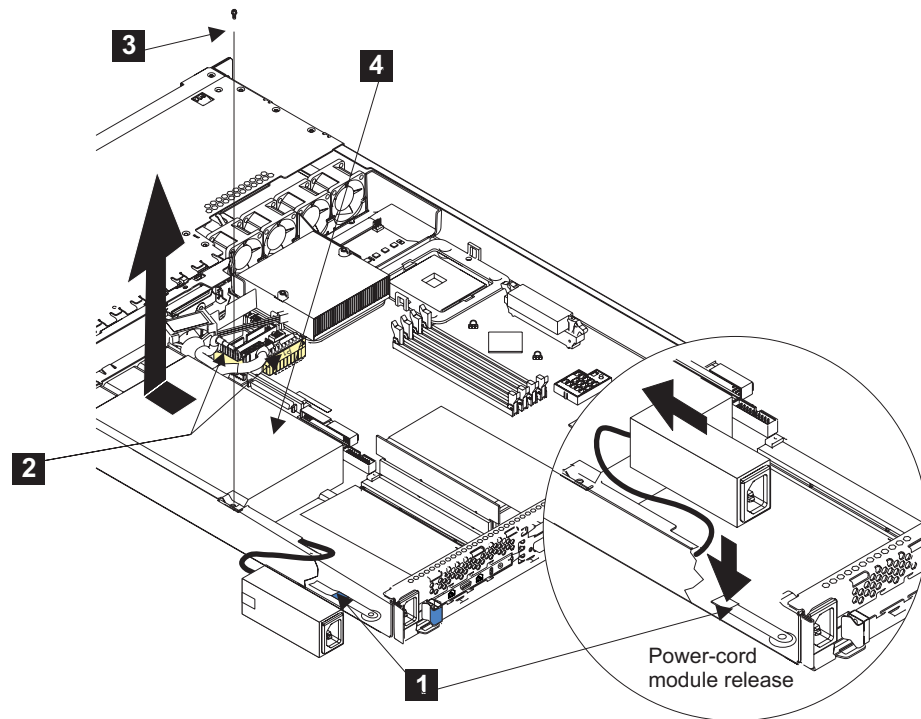

Figure 89. Removing the SAN Volume Controller 2145-4F2 power supply
5. Press down on the clip **1** at the front of the power-cable module and slide the module toward the front of the SAN Volume Controller 2145-4F2 until the alignment tab is free of the slot that is on the side of the SAN Volume Controller 2145-4F2. See Figure 89.